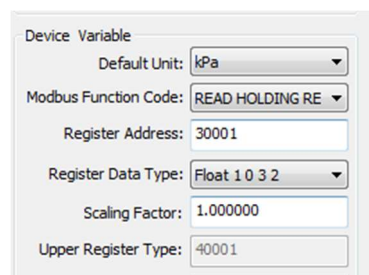

Figure 5.68 Address Selection of Range Upper Limit Register
1. Select > drop-down box corresponding to "detailed design"-"sensor"-">"range upper limit register address", as shown in Figure 5.68